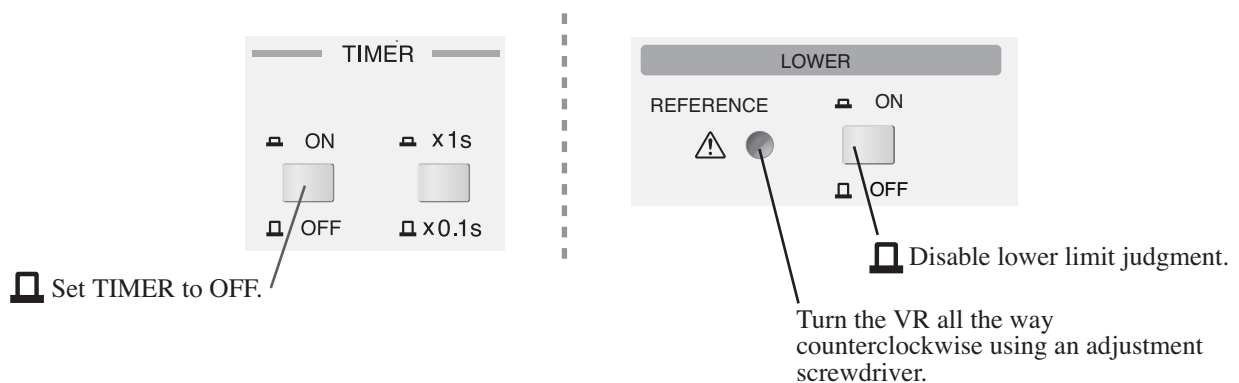

Fig. A-1 Preparing to Set the Current Detection Lower Reference Limit
2. Adjust the front panel settings as shown in Fig. A-1.